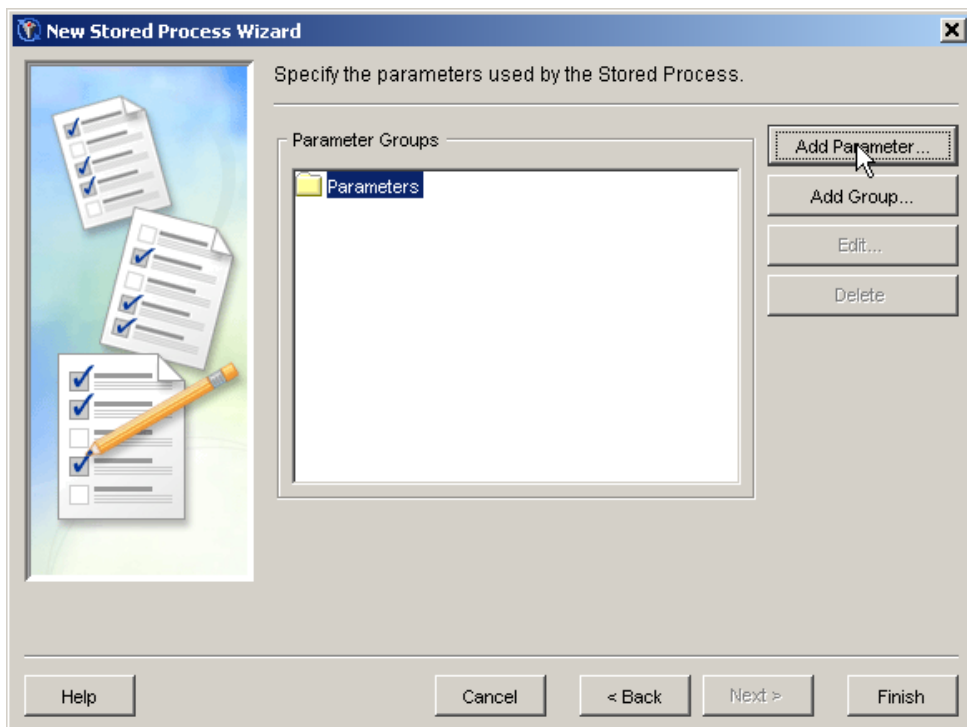

Figure 9. Parameters screen
- c. On the Parameters page, you need to add three parameters. The first is for the SCL program name, `_ENTRY`, that is passed into the `stprunen` program. The second is for `message1` that passes your message into your SCL program. The final parameter is for `retinfo` for returning information back from your SCL program. Click on the Add Parameters button (see Figure 9).